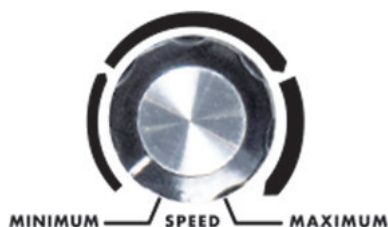

Figure 12
2. Position the speed dial pointer on the control panel at MINIMUM (see Figure 12).
2. Install the small diameter feed chute (baseball chute) for lacrosse (see Figure 11), and position the rubber pad bracket until the bolt holes line up with the lower set of bolt holes in the rotating plate (see Figure 12).
2. Install the small diameter feed chute (baseball chute) for field hockey (see Figure 11), and position the rubber pad bracket until the bolt holes line up with the lower set of bolt holes in the rotating plate (see Figure 12).
- e. Increase the speed of the ball by turning the dial clockwise (refer to Figures 12 and 13).